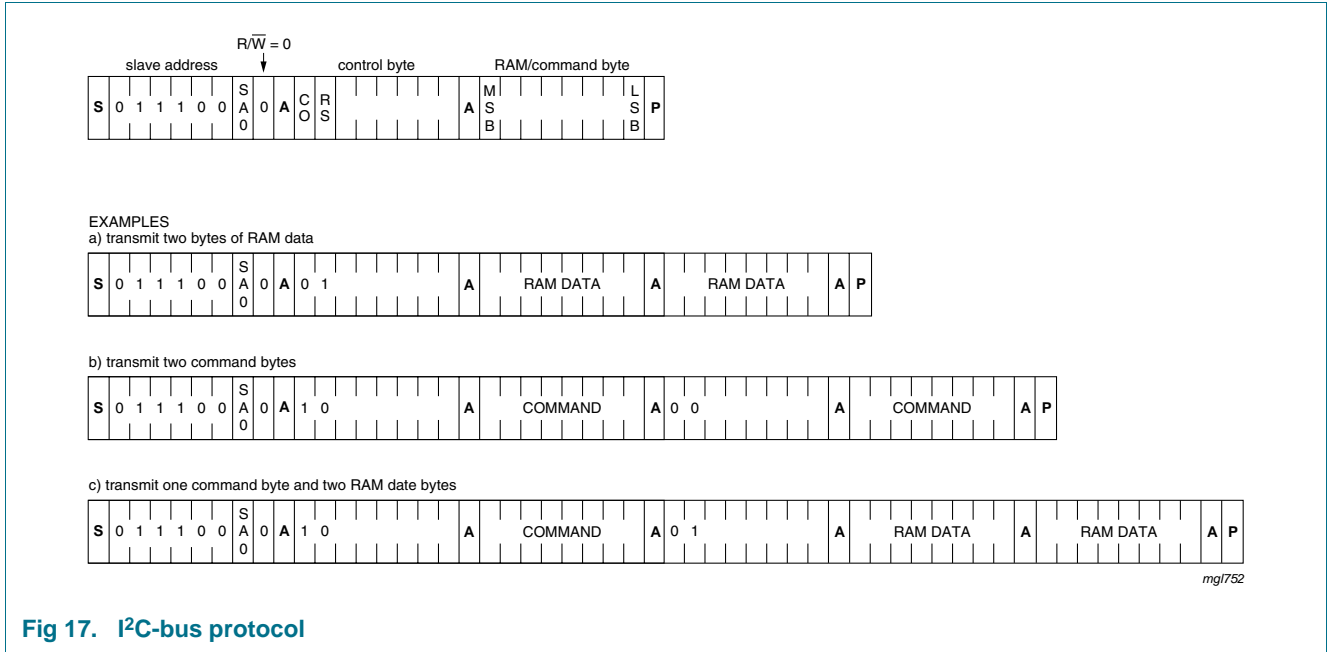

Fig 17. I²C-bus protocol
The I²C-bus protocol is shown in Figure 17. The sequence is initiated with a START condition (S) from the I²C-bus master which is followed by one of two possible PCF85132 slave addresses available. All PCF85132 with the corresponding SA0 level acknowledge in parallel to the slave address, but all PCF85132 with the alternative SA0 level ignore the whole I²C-bus transfer.